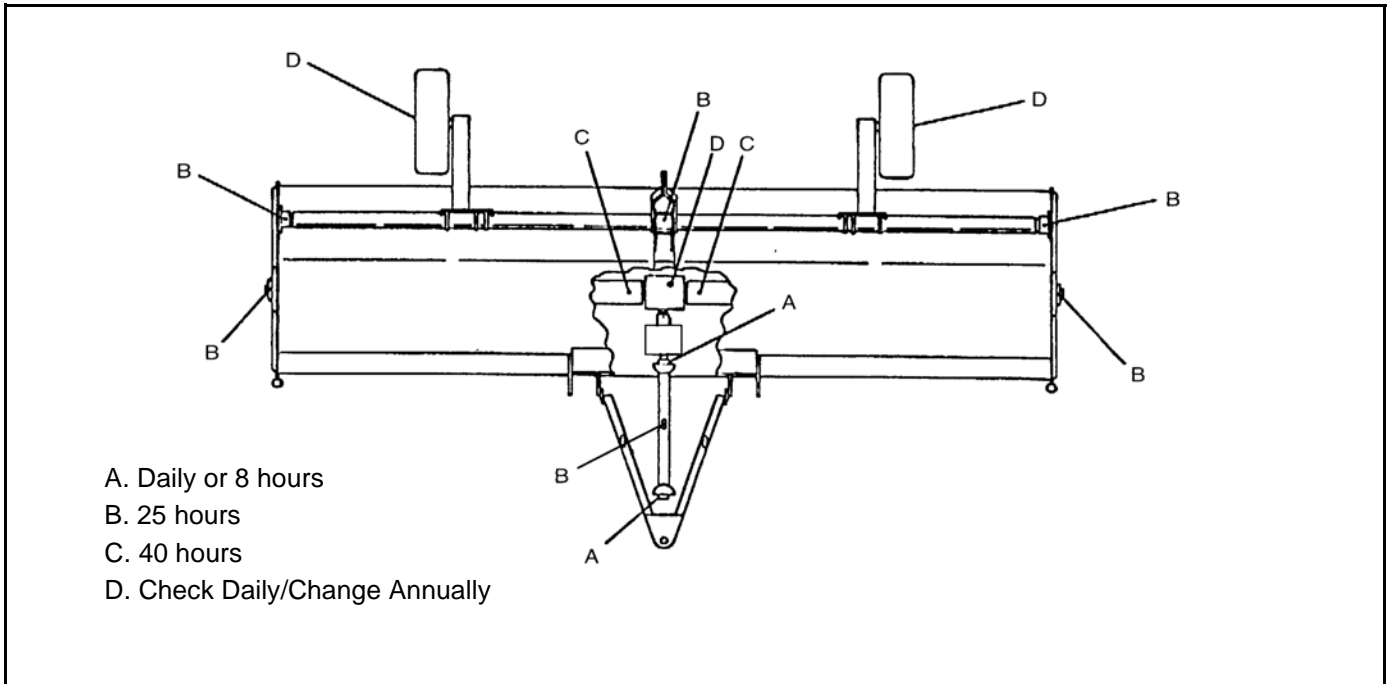

Figure 26. Lubrication Points
NOTE: Recommendations are based on normal operating conditions. Severe or unusual conditions may require more frequent lubrication or oil changes. Refer to Figure 26.
2. Check gearbox daily or every 8 hours of operation. See Figure 26 for gearbox oil fill location.